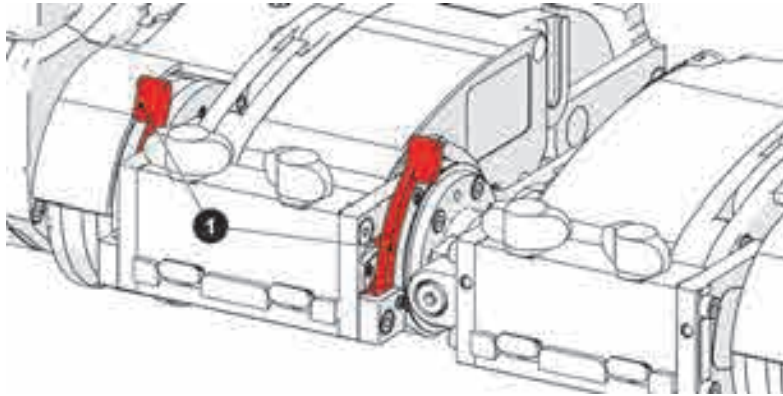
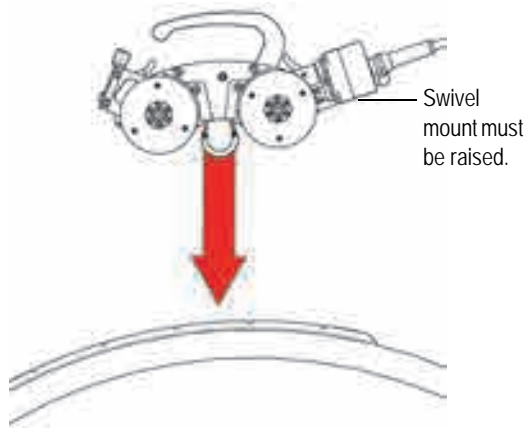

Figure 3-5 Front swivel adjustment levers
Figure 3-6 Proper swivel mount position
1. After the SteerROVER preparation is complete (see “Preparation for Use” on page 29), raise the front swivel mounts (see “Swivel Mount” on page 95), using the swivel mount adjustment levers (see Figure 3-5 on page 61), and the umbilical mount (see “Umbilical” on page 98) to ensure they will not hinder the wheels from contacting the inspection surface. See Figure 3-6 on page 62 for the correct position.